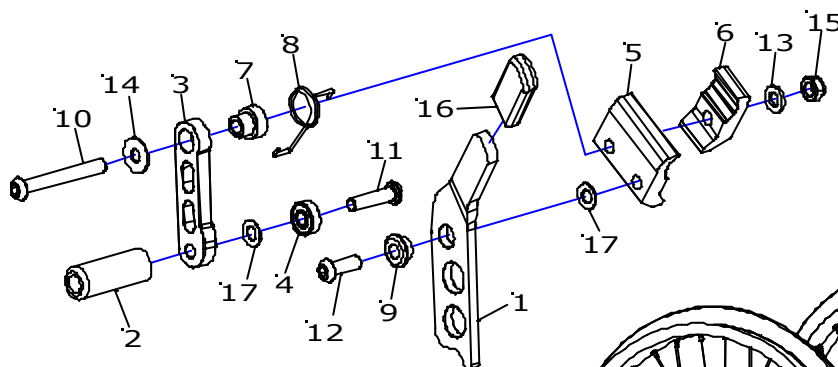
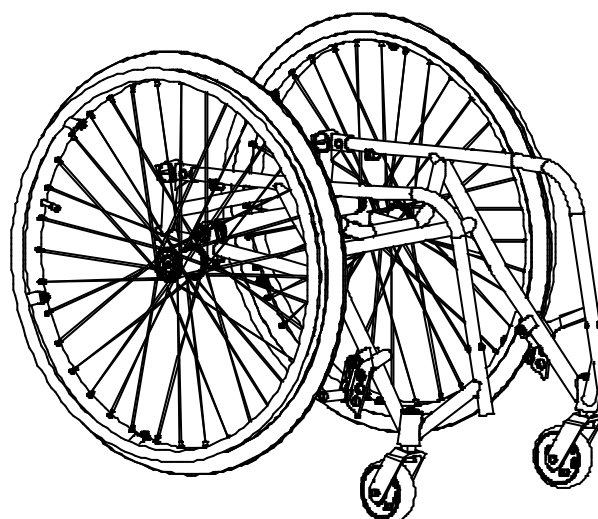

Figure 2
Figure 3
2. Loosen the bolt slightly with the socket head (10) (figure 2) to enable you to place the brake clamps (5 and 6) round the chassis tubing of the wheelchair. (See figure 3).
3. Then try tightening the bolt (10) and move the brake handle (1) forward to brake. The brakes should be adjusted so that they sink into the tyres by around 5mm when in locked position.
- If you feel that the brakes are too loose, push the brake handle backwards and loosen the bolt (10) moving the brake back slightly. Screw in the bolt securely and check that you are satisfied with the braking function.
- If you feel the brakes are too stiff, loosen the bolt (10) and move the brake forwards slightly. Screw in the bolt securely and check that you are satisfied with the brakes.
4. Make sure that the brake locking block (2) is positioned straight against the rear wheel for the best possible braking effect.